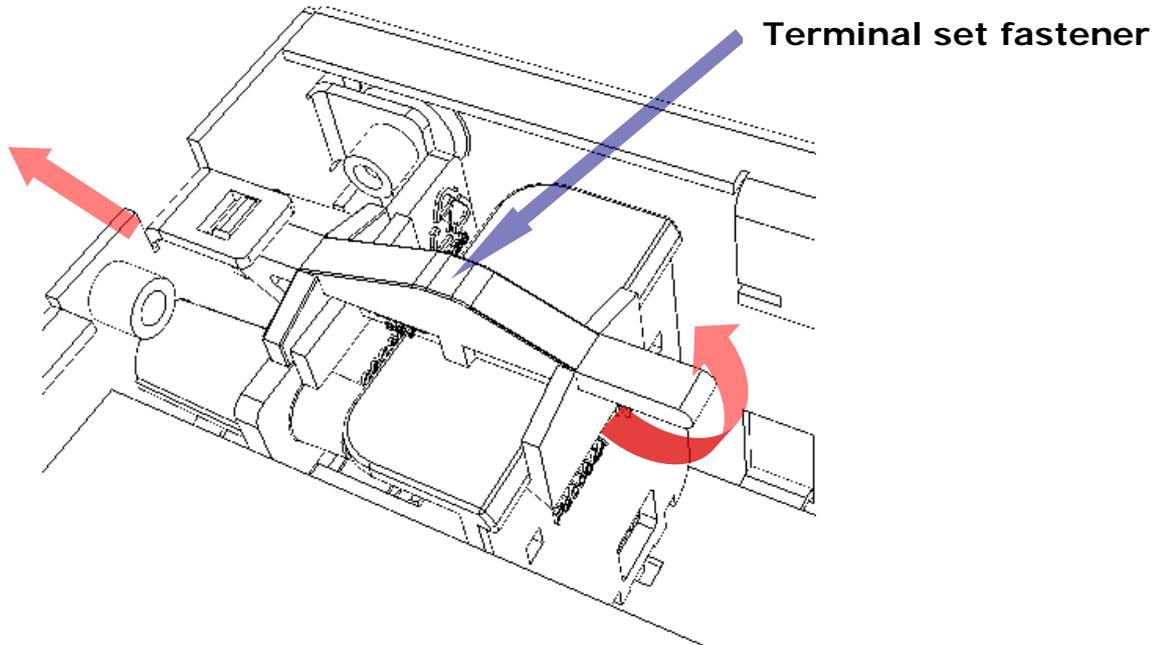

Figure 4-11
- Remove the fastener of the rear terminal set as shown in **Figure 4-11**, and pull the rear panel out from the chassis. Remove the fastener of the front terminal set by the same way.